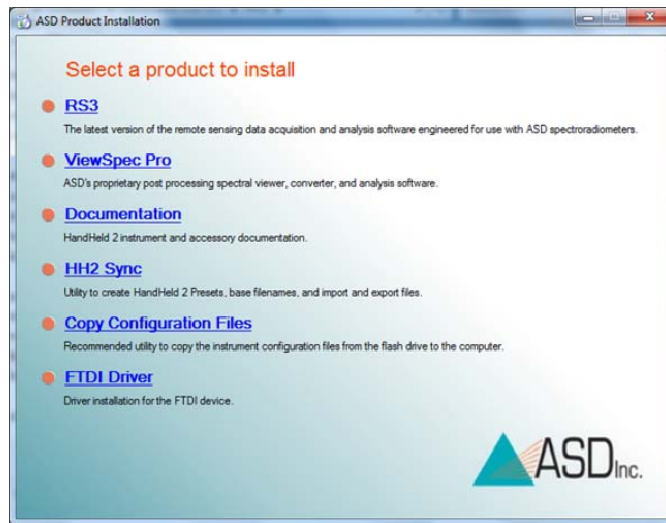

Figure 3-3: ASD Product installation screen
- Step 2 The introduction screen lists several files to be installed on the computer (Figure 3-3). Install RS³ by following the prompts.